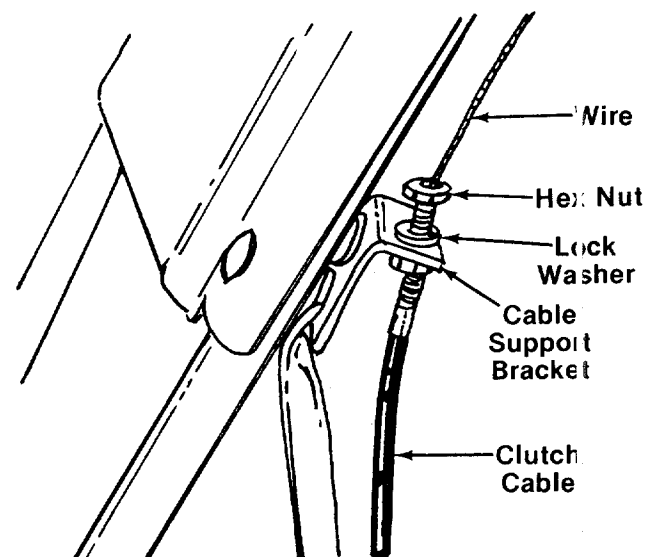

FIGURE 15.
- 17. Remove one nut and lock washer from other end of clutch cable. Slip the wire up through slot on cable support bracket. Start hex nut and lock washer back on end of clutch cable. See figure 15. Do not tighten at this time.